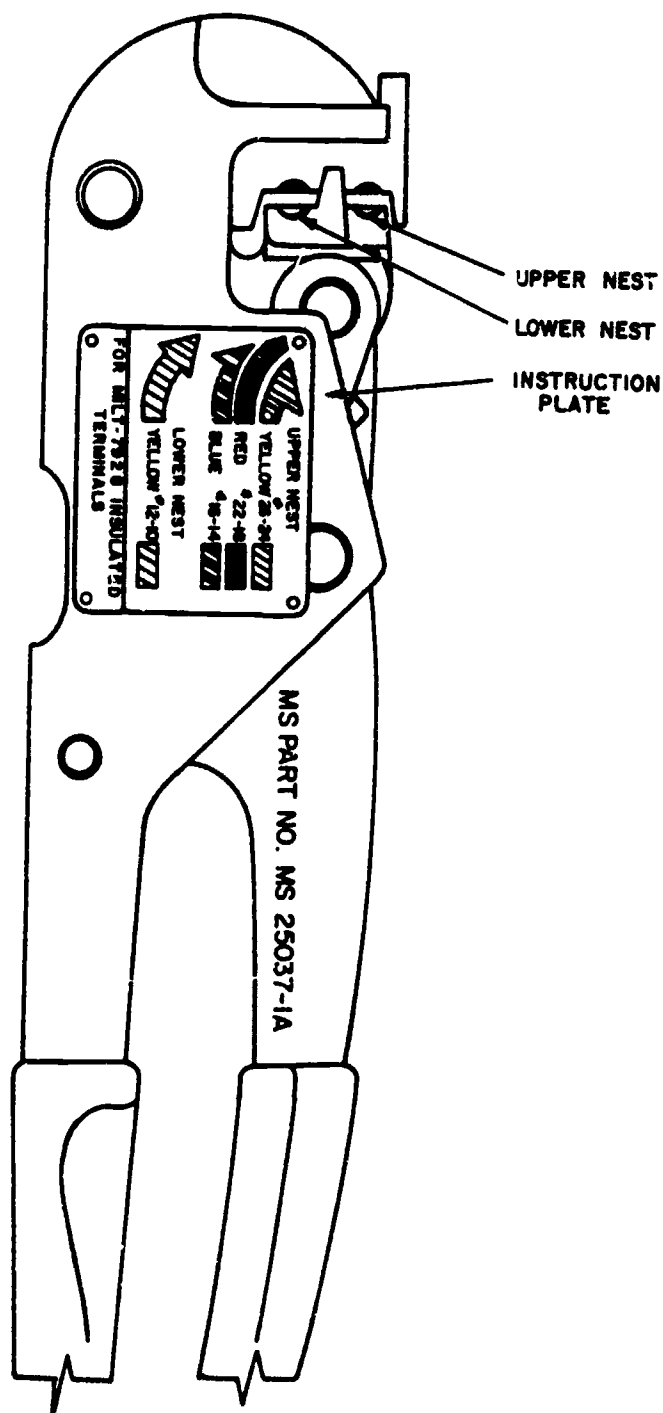
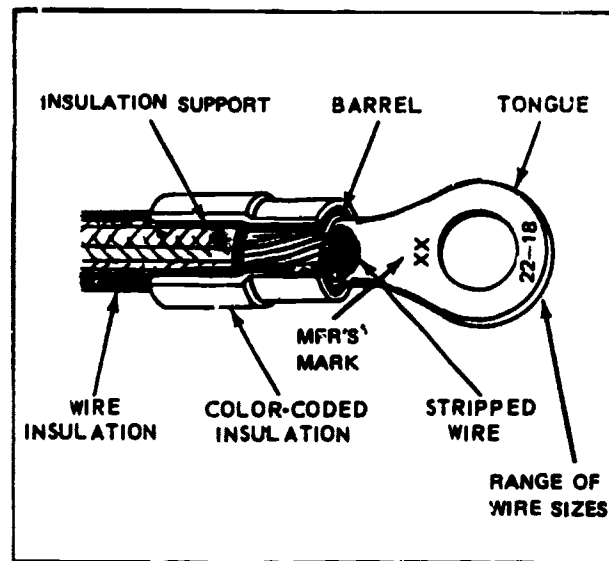

Figure 1. Crimping Tool.
Figure 2. Preinsulated Terminal Lug - Cut-Away.
a. The crimping tool (figure 1), is used for connecting (crimping) preinsulated terminals (terminals with plastic covered barrels, figure 2) and splicing connectors to electrical wiring.
b. Insulated terminals and connectors are color coded for the size of electrical wiring with which they are to be used. The color coding is done by making the insulation of each size of terminal or connector a different color. The instruction plate on the crimping tool (figure 1) shows the nest (jaw section) that is to be used for the size of the wire and color of the terminal or connector.